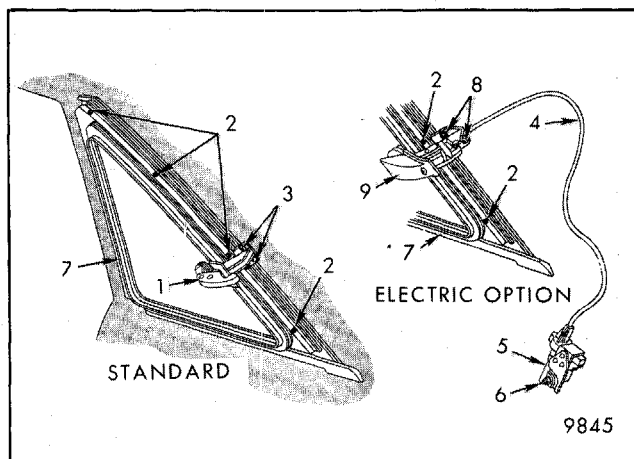
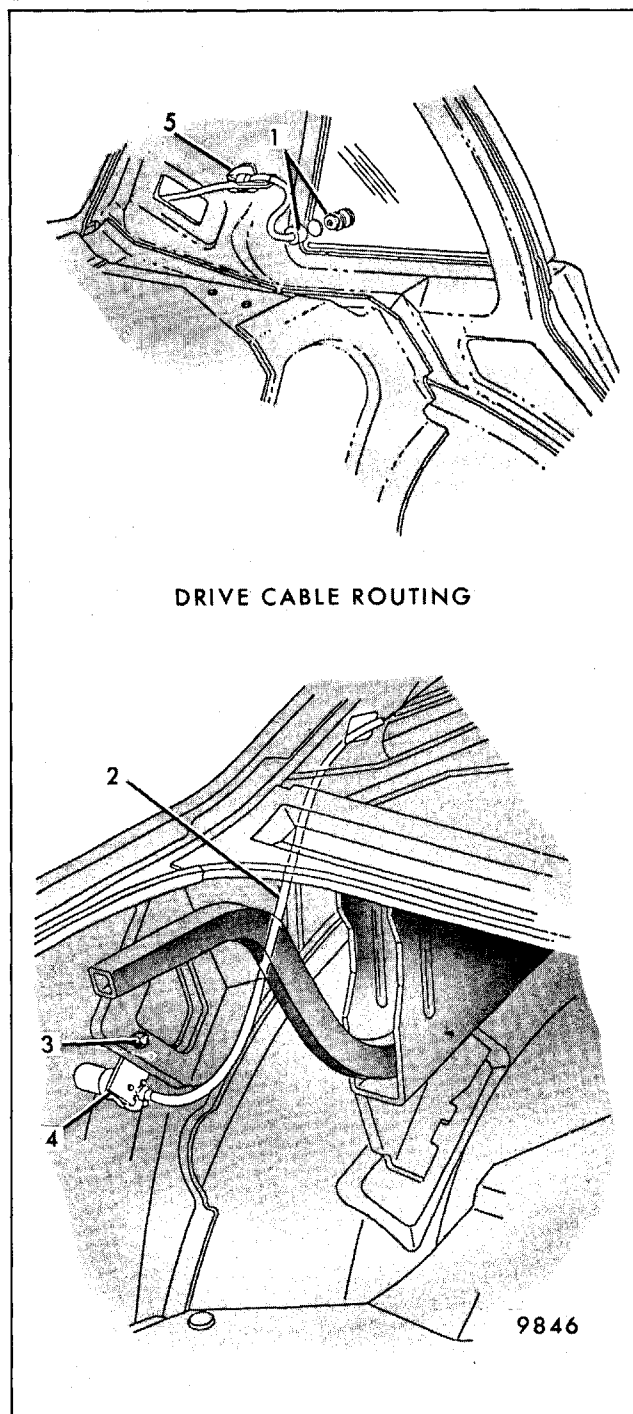

Fig. 6-34-Quarter Swing-out Window Hardware - A-09,19 Styles - Manual and Electric
Fig. 6-36-Electric Actuator Installation - A-09,19 Styles with Electric Swing-out Quarter Window Option
SWING-OUT QUARTER WINDOW - MANUAL AND ELECTRIC - A-09,19 Styles (Refer to Figs. 6-34, 6-35 and 6-36)
1. On manual window, remove quarter upper trim panel to expose latch to body attaching screws (3, Fig. 6-34), then remove screws.
On electric window, separate drive cable from glass by unscrewing plastic retaining nut on inside of glass (1, Fig. 6-36).
2. Holding rubber channel back to locate rivets (2, Fig. 6-34), drill out rivets using 3.2 mm (1/8") drill bit.
3. Using a flat-bladed tool and working from inside body, carefully disengage rubber channel assembly (7, Fig. 6-34) from quarter window opening pinchweld flange. Start at body pillar and work around entire window opening, then remove outboard.
1. Remove drive cable support trim cover (9, Fig. 6-34) and quarter upper trim panel to expose drive cable support (5, Fig. 6-36).
2. Remove drive cable support attaching screws (8, Fig. 6-34).
3. Unscrew drive cable plastic retaining nut at glass (1, Fig. 6-36).
4. Remove actuator support attaching nut on wheelhouse pinchweld flange (right side) or wheelhouse support brace (left side, 3, Fig. 6-36) in rear compartment.
5. Separate drive cable support from cable by removing attaching screws, then snake cable back through rear compartment (2, Fig. 6-36). Remove actuator (4, Fig. 6-36) and drive cable assembly from rear compartment as a unit.